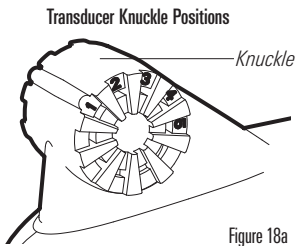
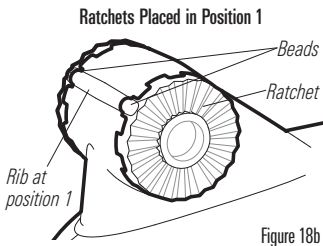
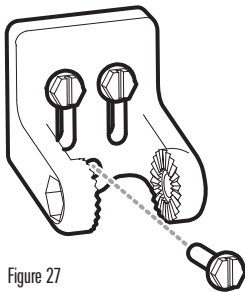

Figure 18a
Figure 18b
Figure 27
2. Place the two ratchets, one on either side of the transducer knuckle, so that the beads on each ratchet line up with the desired position number on the knuckle (Figure 18a). If you are setting the ratchets at position 1, the beads on each ratchet will line up with the rib on the transducer knuckle to form one continuous line on the assembly (Figure 18b).
If you are still not getting good high speed readings, you may need to disassemble the transducer mounting assembly and re-position the ratchets (Figures 18a - 18d).
8. Re-position the transducer bracket against the transom of the boat, then hand-install all three screws. Make sure that the transducer location has not changed, then fully tighten all three mounting screws (Figure 27). **Hand tighten only!** Re-install the transducer to the mounting bracket, making sure to assemble the ratchets in the same location they had before. (See Figures 18a - 18d and Figure 21 - 22). If you have performed the preceding procedures correctly, the transducer should be level and at the right height for optimal operation.